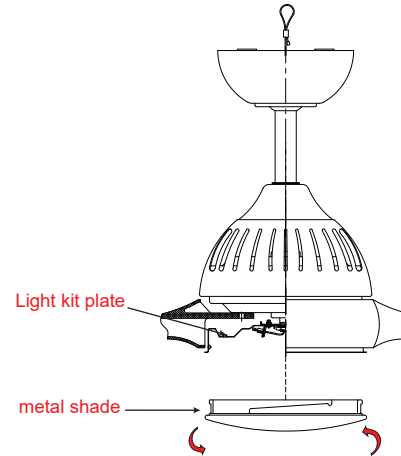

Fig. 18
Step 1. If you want the fan to be non-light version, please kindly skip step of "installing the LED light kit and glass shade" above and follow the procedure directly : Attach the metal shade to the light kit plate by twisting tightly. (Fig.18)